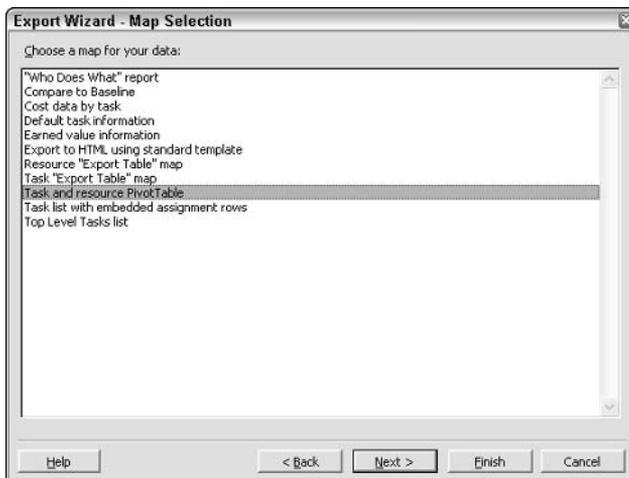

Figure 14-25: The Map Selection portion of the Export Wizard dialog box.
8. Select Task and resource PivotTable, and click Finish, as shown in Figure 14-25.